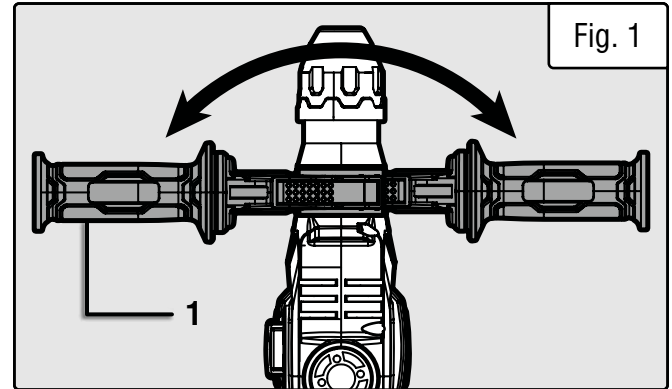

Fig. 1
1. Loosen the auxiliary handle (Fig. 1 - 1) by twisting it counterclockwise, slide the handle to the desired position, and then tighten it by twisting it clockwise.